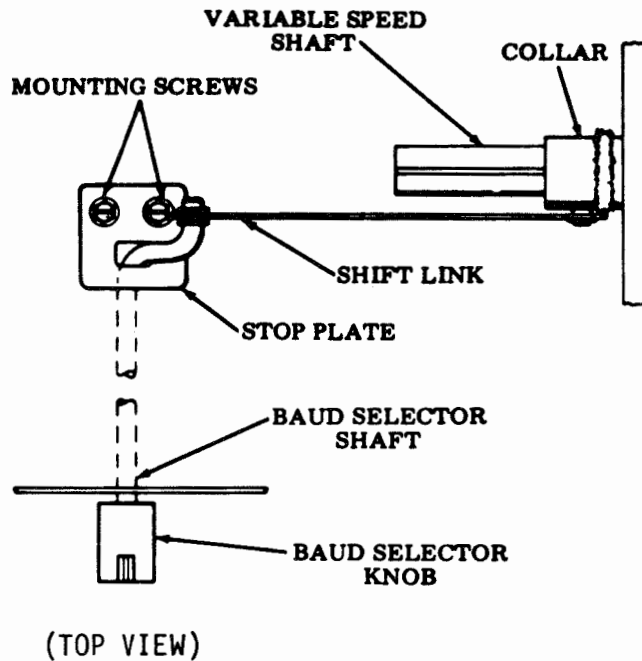

Figure 6-135. Baud Selector Stop Plate
(3) Baud Selector Stop Plate. Adjust Baud selector stop plate as follows:
- (a) Refer to figure 6-135.